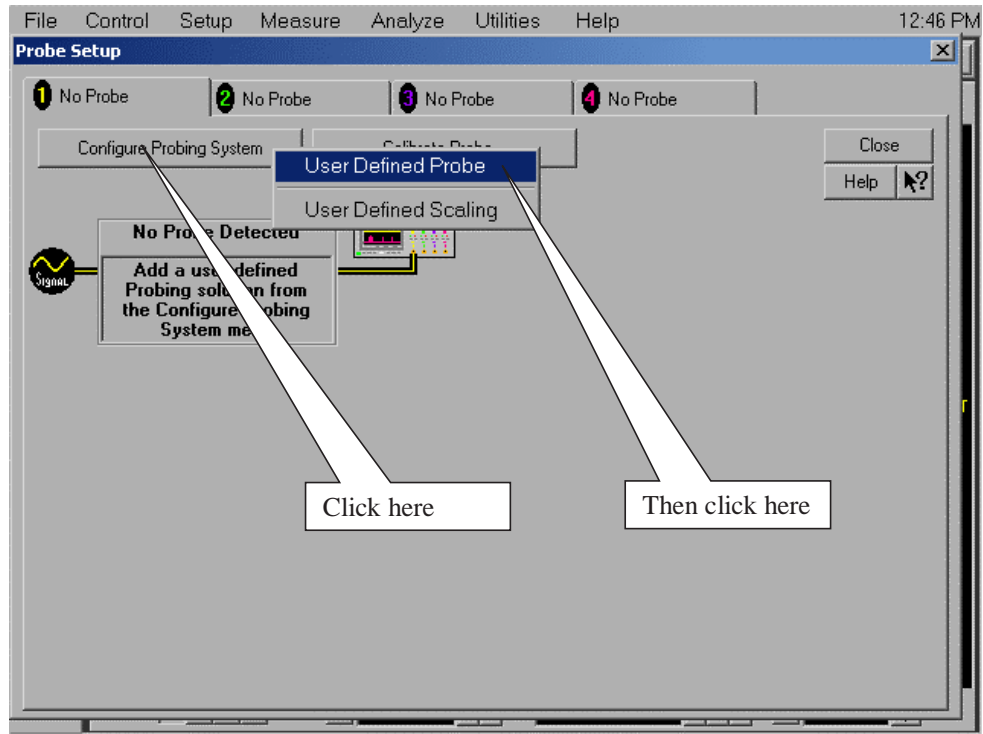

Figure 291 Probe Setup Window.
- 3 Referring to Figure 291 below, perform the following steps: